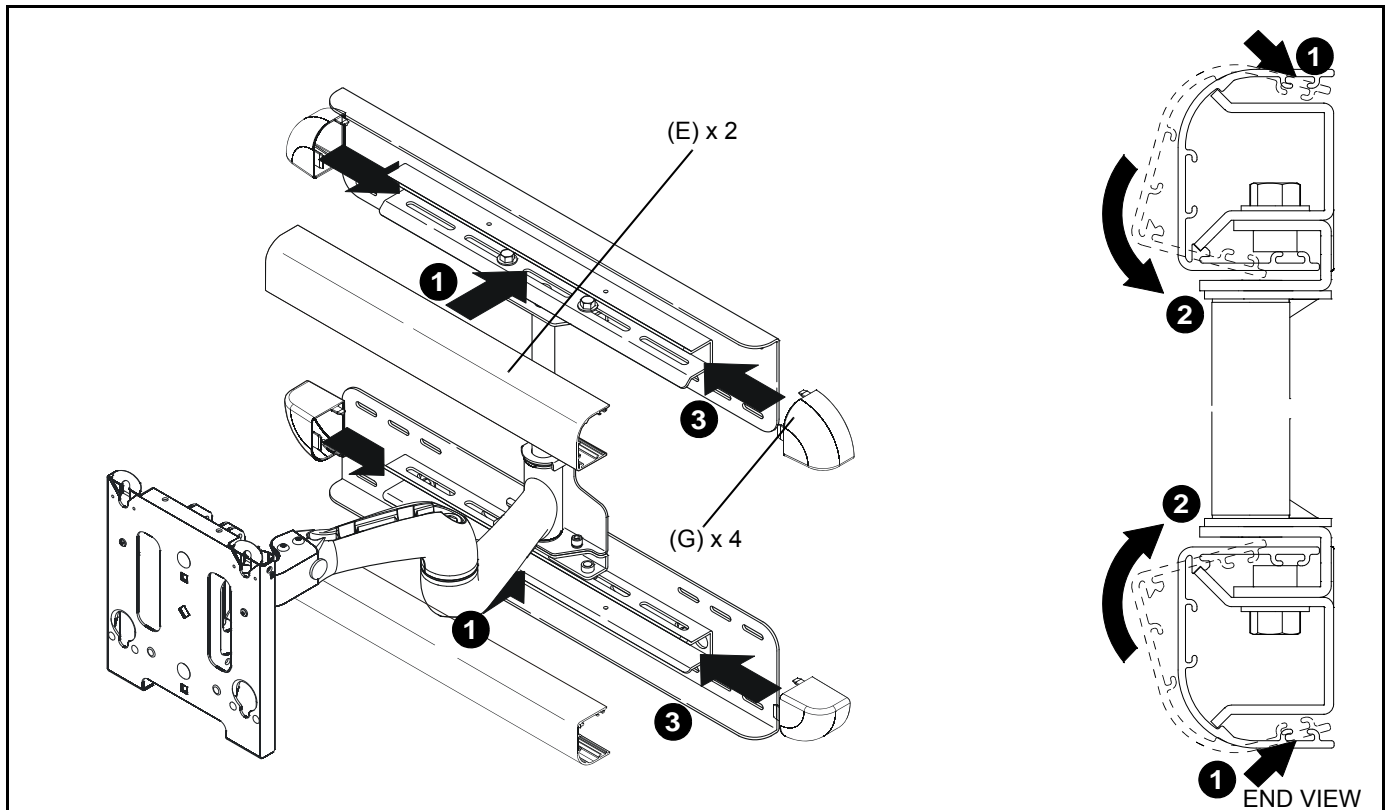

Figure 8
2. Lower bottom of upper wall channel cover (E) and tap firmly across bottom of channel to lock in place. (See Figure 8)
3. Install R.H. and L.H. end caps (G) by aligning tabs on end caps with slots in wall channel and sliding tabs into channel until end cap is flush with wall channel cover (E).
1. Install upper wall channel cover (E) by tipping cover top down. (See Figure 8)